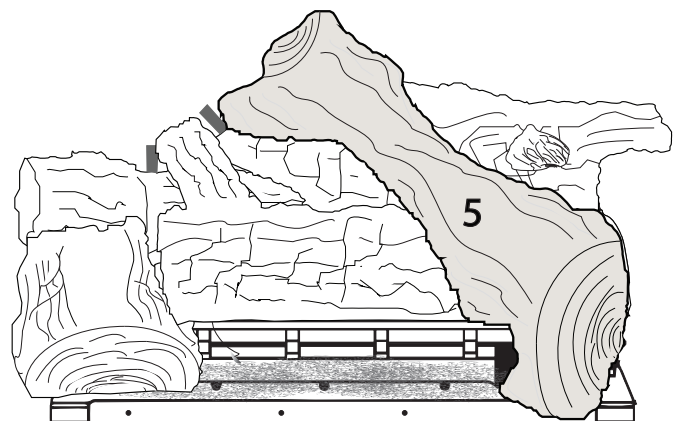

Figure 24 - Log #5 Placement
6. Hold Log #5 with the flat sides of the log facing to the right. Place Log #5 so the cut out wraps around the lower right grate tine. Make sure that Log #5 is sitting on the upper left flat area of Log #2. Make sure Log #5 is rotated to the right as far as possible to avoid flame impingement. See Figure 24.